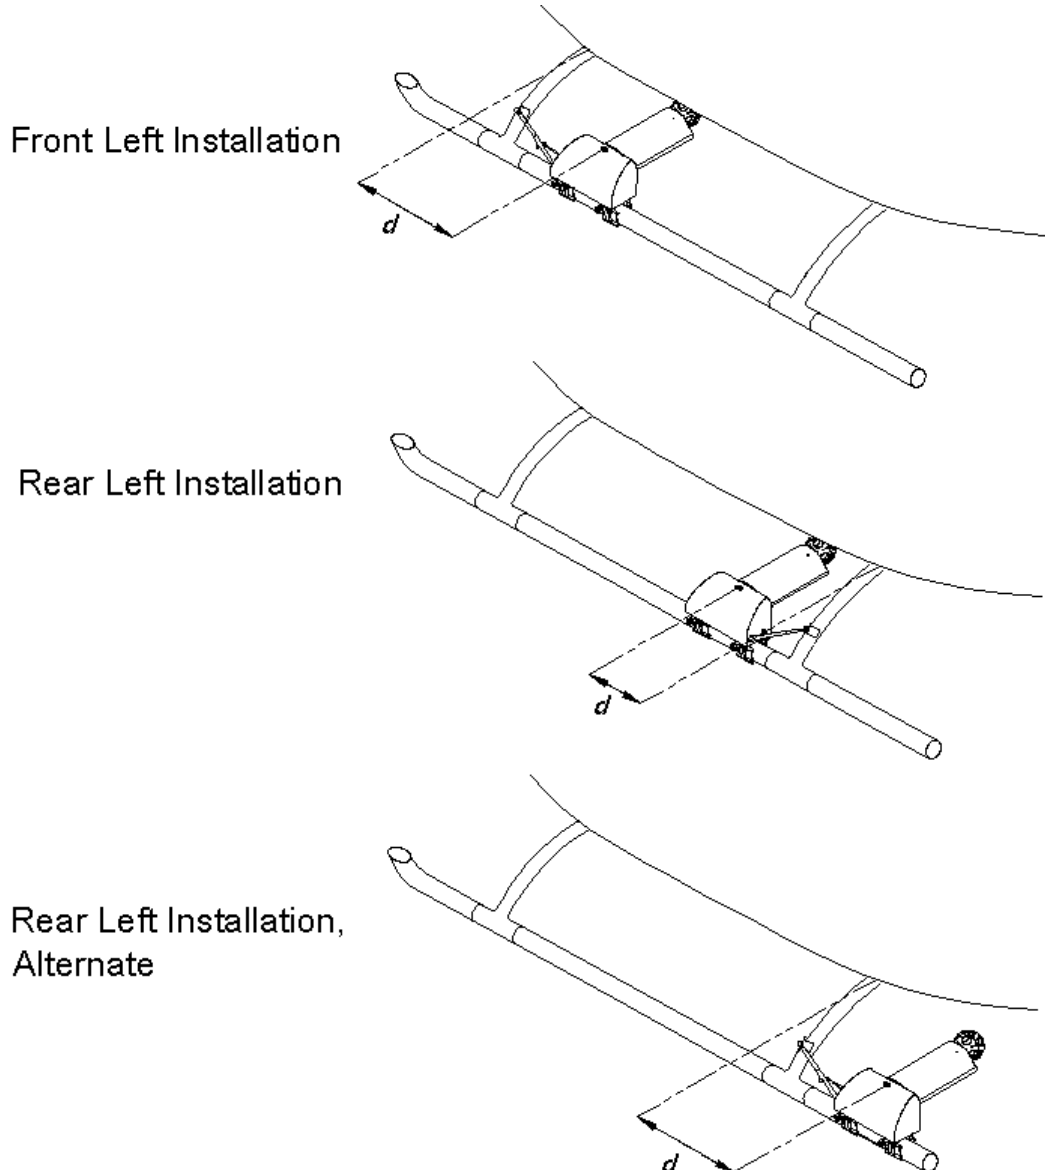

Figure A.1: Installation Location Weight and Balance
- (1) Figure A.1 and Table A.1 demonstrate an alternate method of measuring the longitudinal C.G. location using the strut's attachment to the helicopter as a reference.